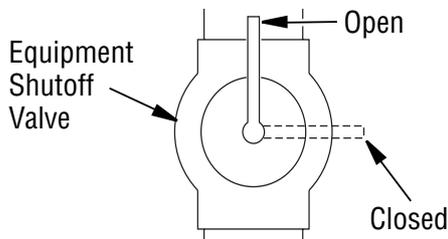

Figure 21 - Equipment Shutoff Valve
1. Close equipment shutoff valve (see *Figure 21*).
1. Open equipment shutoff valve (see **Figure 21**).